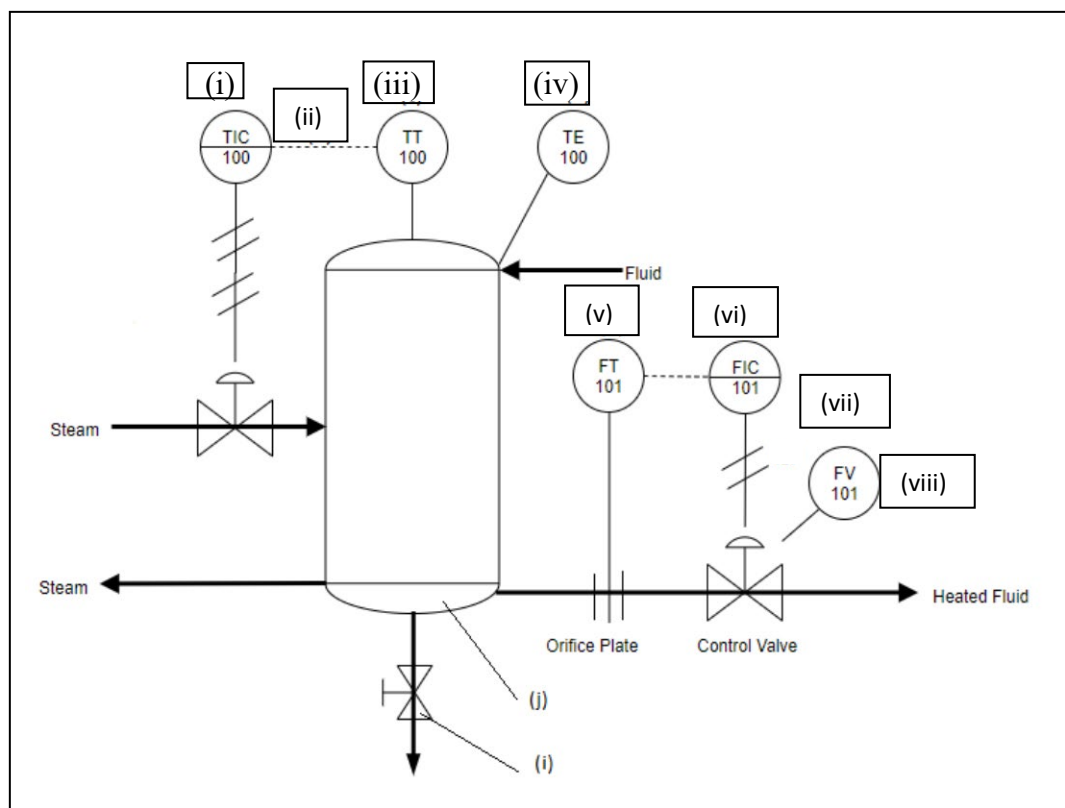

Figure A4c / Rajah A4c
- (c) Figure A4c shows the equipment and line in the process industry which shows the piping of the process flow together with the installed equipment and instrumentation. Based on the figure, change the symbols label (i) to (viii) in P&IDs below to the equipment and line name.